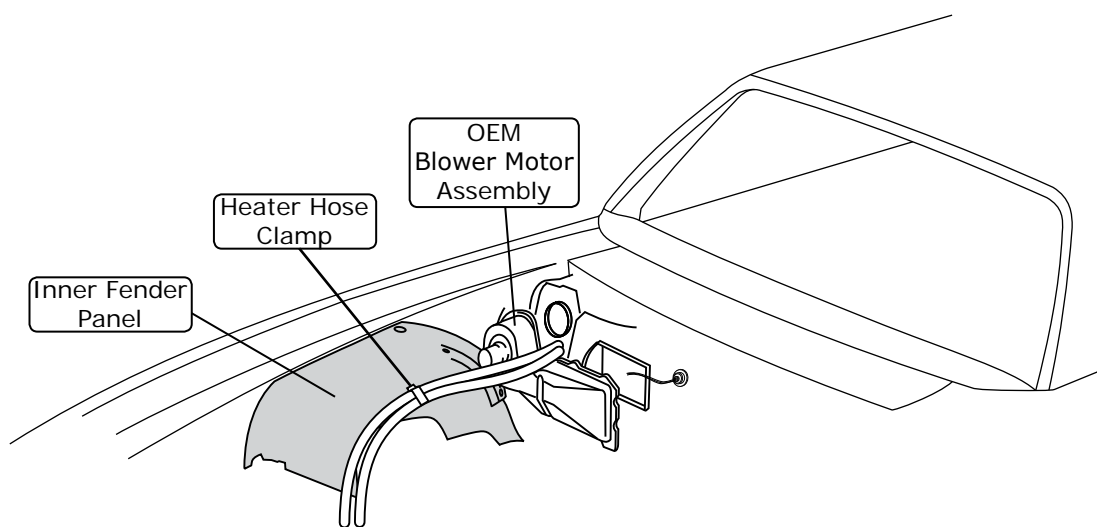

Figure 1
6. Remove OEM heater wiring/vacuum harness molded grommet (See Figure 1, below).